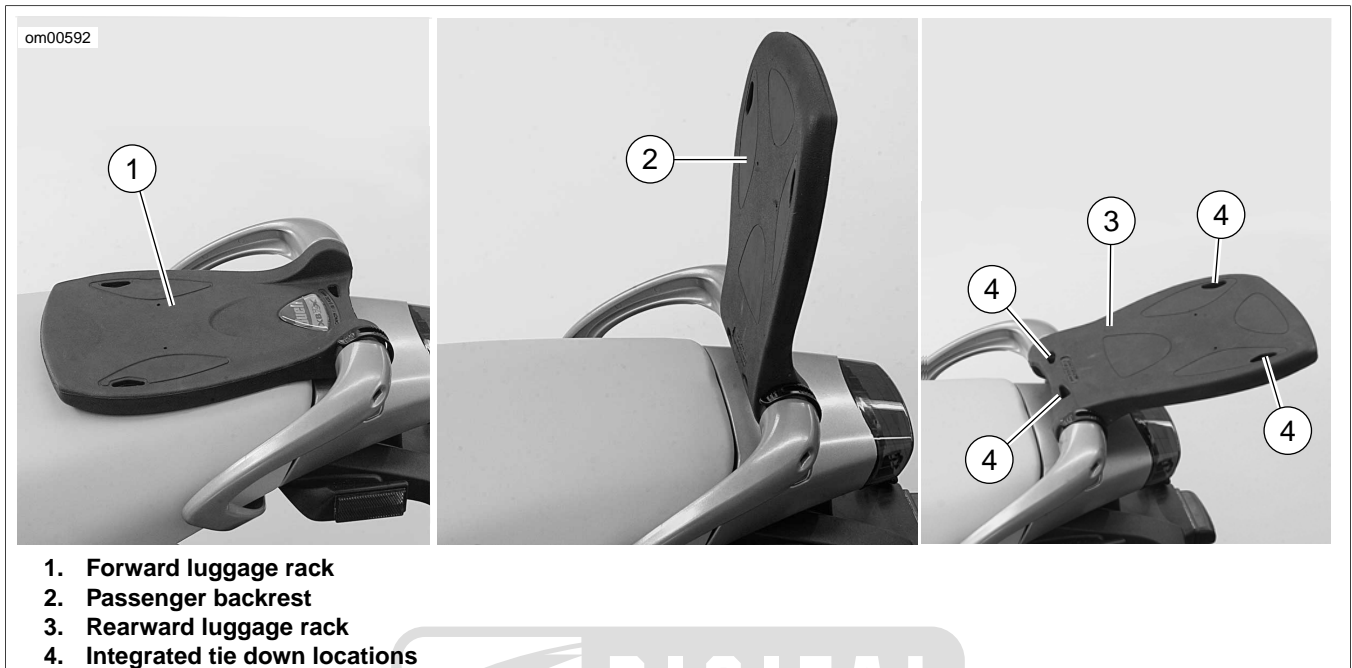

Figure 2-203. Triple Tail: Ulysses Models
See Figure 2-203. The Triple Tail when folded forward acts as a luggage rack (1) with integrated tie-down hooks. When in